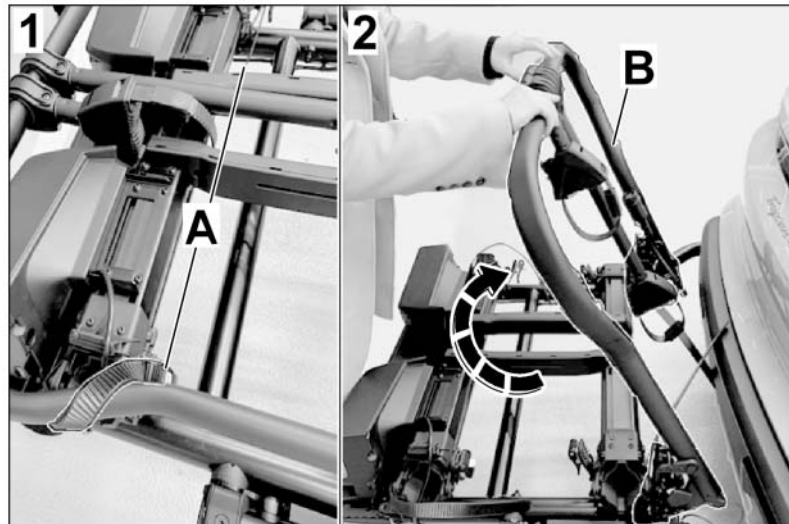

Figure 13
13. – Loosen locking straps on the flaps ⇒ *Figure 13 -LHD vehicle* - by pressing the grey release and feed out the locking strap. Then, fold the support bar up towards the rear of the vehicle ⇒ *Figure 13-RHD vehicle* -.